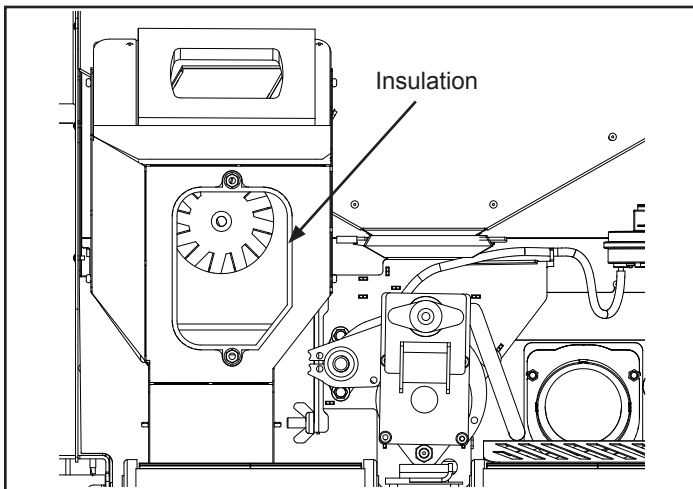

Figure 2.9
- l. Before re-installing the access cover, make sure the insulation between the two layers is in tact, Figure 2.9.